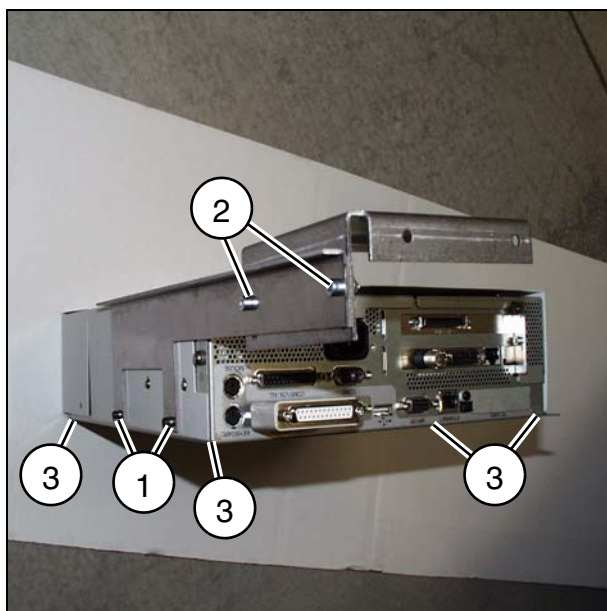

Fig. 1
- The accessory pack includes 4 self-adhesive rubber mounting feet which must be affixed on the lower side of the DICOM Bridge, on the respective corners (3/ Fig. 1).
- Attach the mounting bracket (1/ Fig. 1) on the DICOM Bridge, using the M 3 x 10 mm screws and lock washers attached.
Pay attention to good contact of the cover of the DICOM Bridge to the DICOM Bridge (Fig. 1).
- Attach the 2nd mounting bracket with the screws as shown in (2/ Fig. 1).